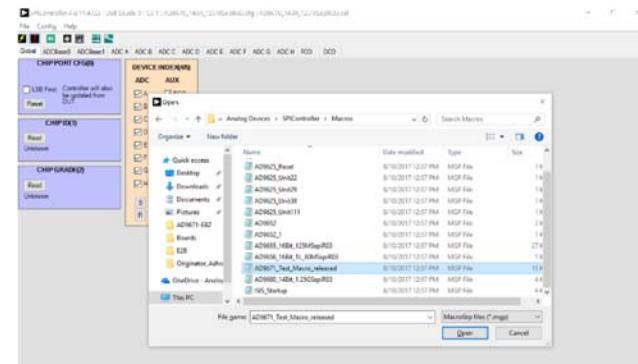

Figure 10. SPI Macro File Select Dialog Box
10. In the main **SPIController** window, click **File**, then click the **MacroGroup Open** command, and select the **AD9671\_Test\_Macro\_released.mgp** file (see Figure 10).